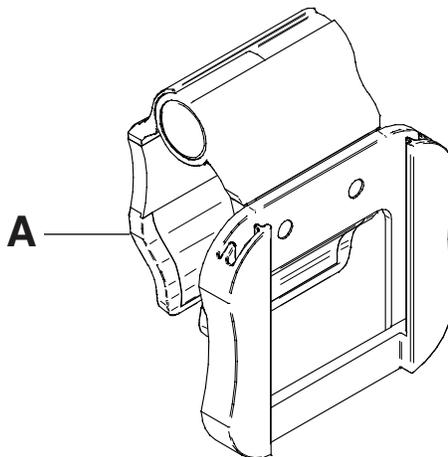

Figure 85: Patient control pendant clip
1. Raise the clip (A) (Figure 85 on page 96).